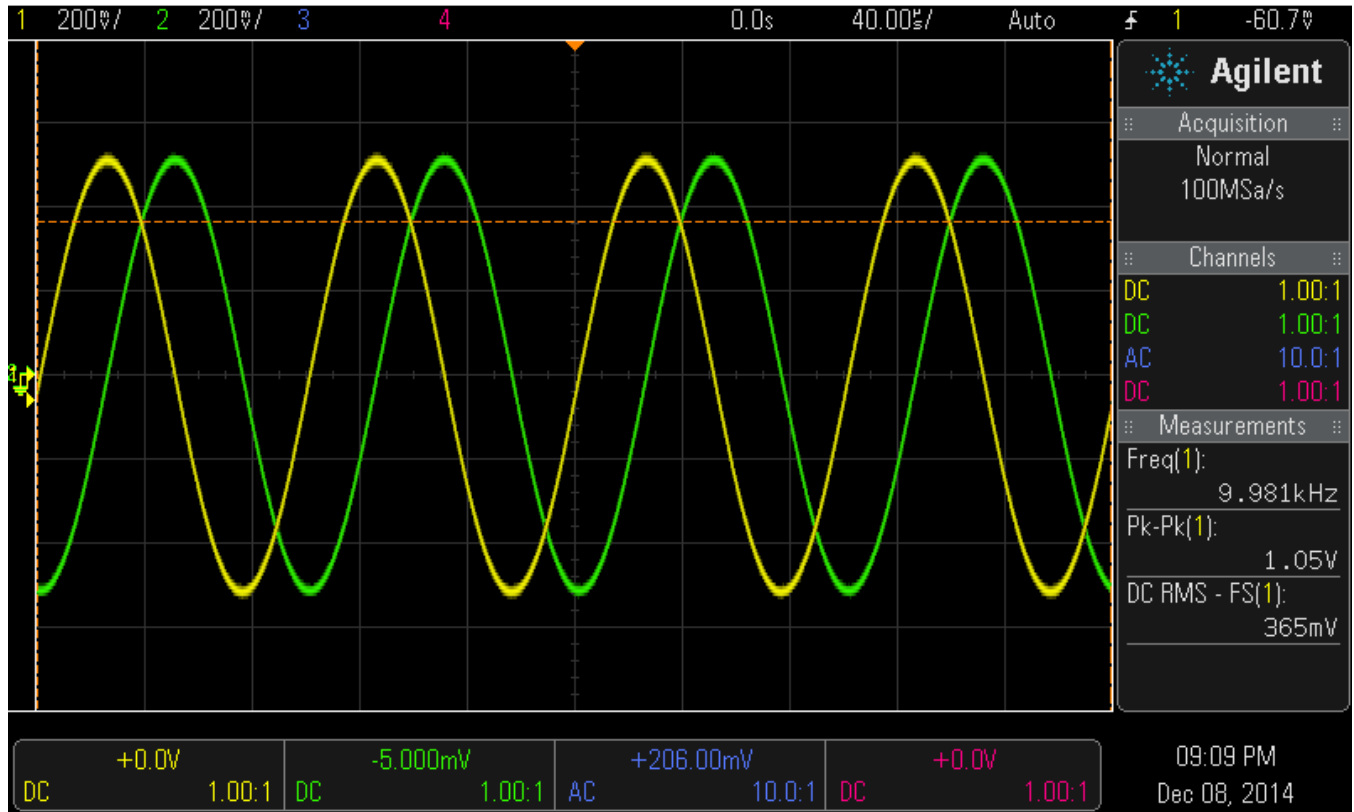

Figure 24. CW Output
6. The oscilloscope displays the frequency I and Q signals at 10 kHz as shown in Figure 24. The amplitude should be around $1.3 \text{ Vpp} \pm 200 \text{ mVpp}$, though this amplitude may change. The frequency should be 10 kHz and signals should be 90 degrees out of phase.